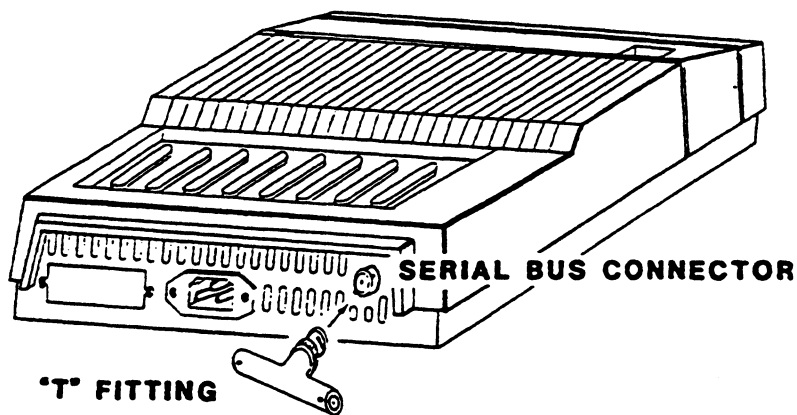

Figure 2-10. Connecting "T" Fitting to Cluster Controller
3. All BNC connections are handled as described in steps 1 and 2. Using this same procedure, connect a "T" fitting to the serial bus connector on the first cluster controller to be installed on the line (figure 2-10).